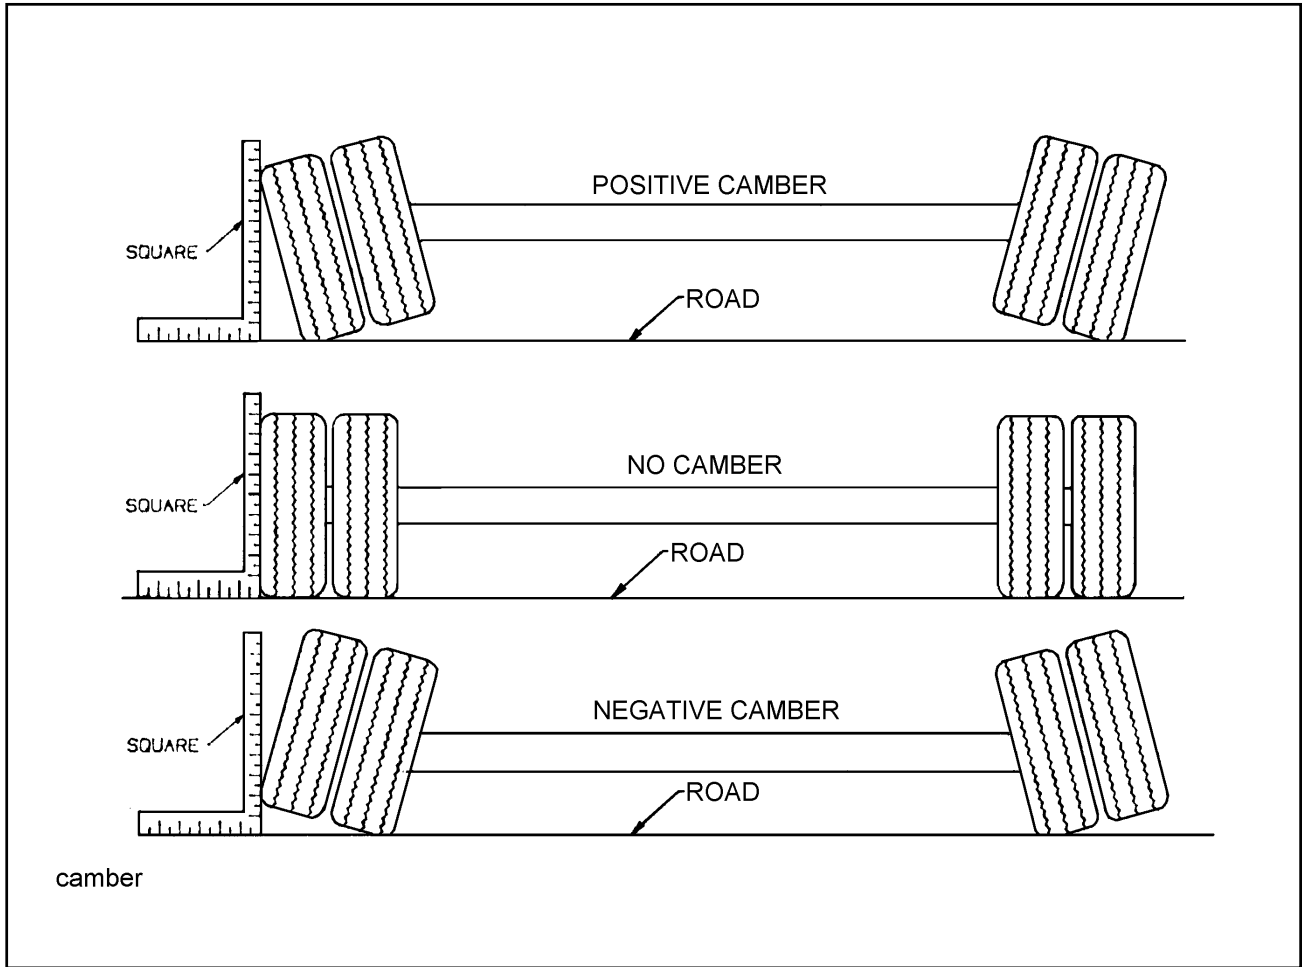

Figure 4-5 Examples of Camber
- d. Follow the same procedures as in **Section 4-7.1 b. and c.**, except place the axle gauge above and below the axle. If gauge point gap is found, the axle has positive or negative camber. The trailer axle has no camber from the factory. If it is found to have positive or negative camber, axle replacement is necessary (See **Figure 4-5** for examples of camber).